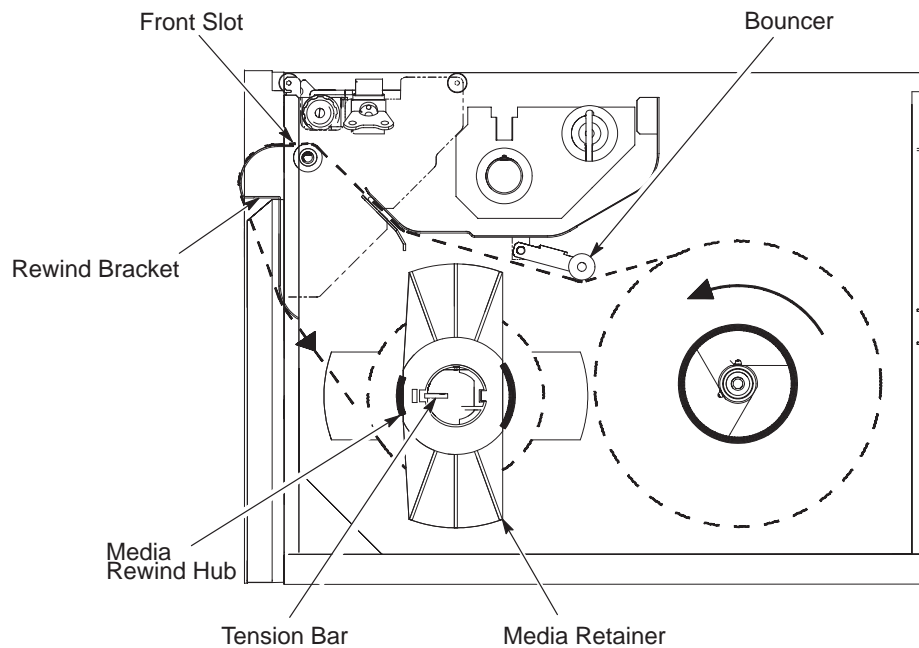

Figure 2-10. Media Rewind Hub
1. Pull the peel roller bracket away from the peel and present mechanism using the two release tabs as shown in Figure 2-10.